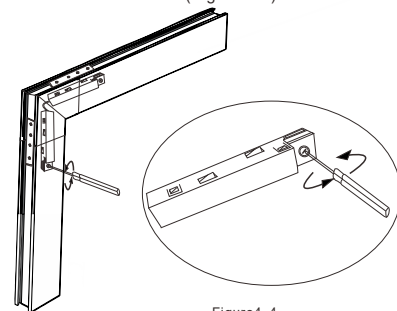

Figure4.4
4. After the external L-type guide connector is installed, tighten both ends of the safety buckle clockwise with a word screwdriver to ensure complete fastness Load the track and check whether the track is on or not. (Figure 4.4)